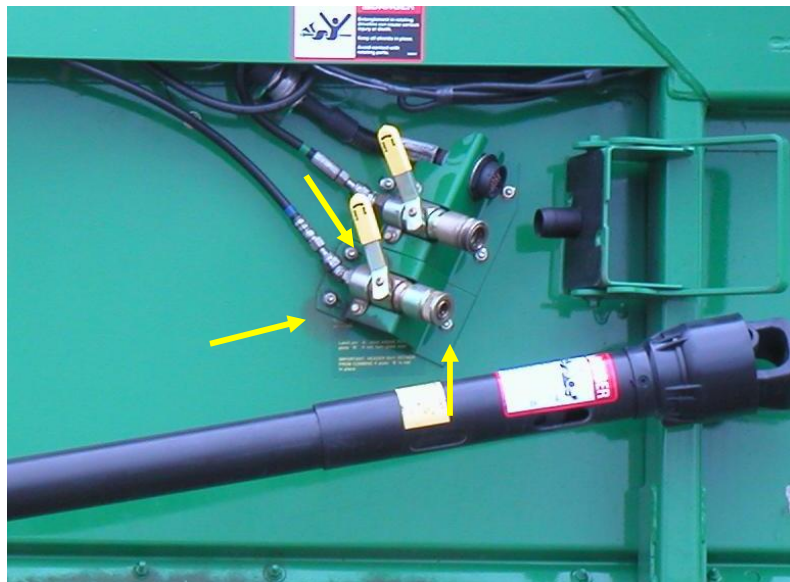

Figure 8
6. Mark and drill the holes for the fore/aft bracket (LAN – 128041). (See Figure 8)